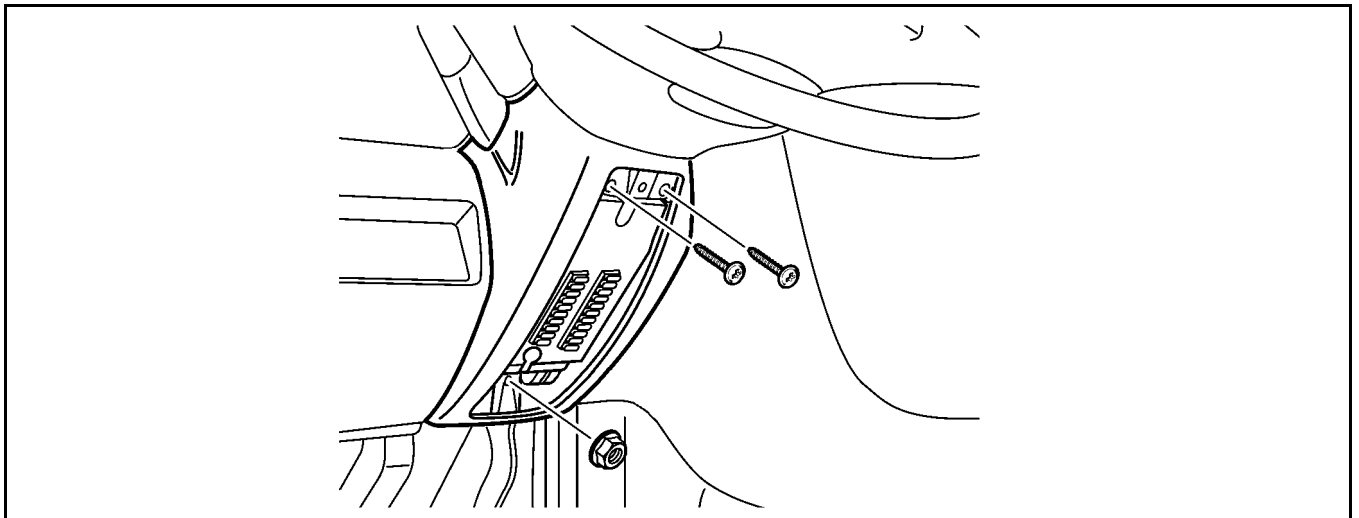

Figure 232 Removal of Steering Column Cover and M Relay
3. Unscrew Phillips screws and nut (Figure 232). Remove steering column cover. Remove M relay for better access to steering column bracket.